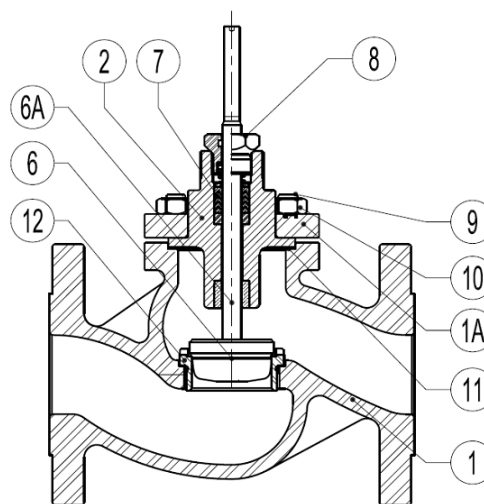

Fig.4
Separate the actuator from the valve body as described before. In reference to fig.4 proceed as follow:
1. Screw off the threaded bushing (3).
2. Remove spring (4) and packing (graphite type G packing do not have spring).
6. Replace the body gasket (11) (see fig. 4) after cleaning its housing face carefully.